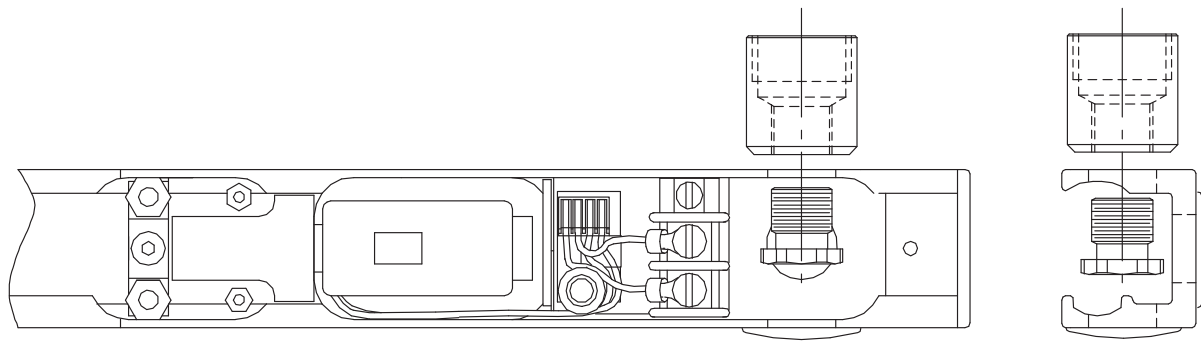
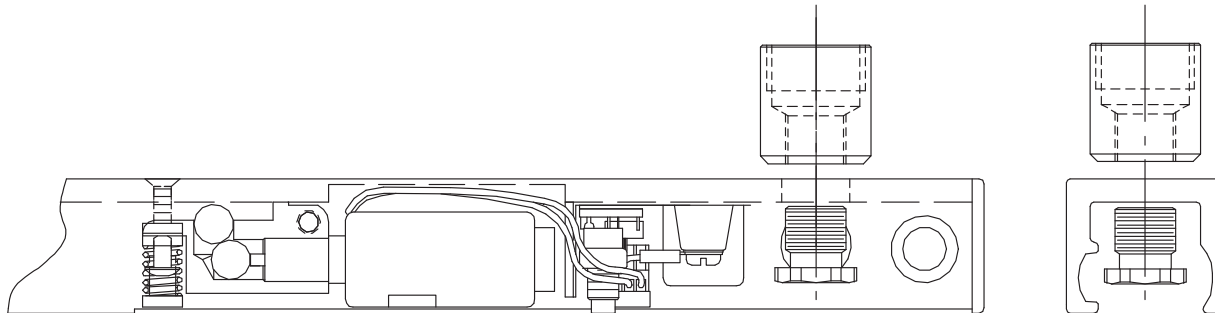

Fig. 1
Fig. 2
- 1c During step 3 on the closer installation instructions, make sure that the Conduit Connector is secured flush against the track surface. See option in Fig. 1 below that matches the mounting option selected for track surface. With the track mounted, take the Conduit Plug and slide it through the 1/2" hole in the track. (see Fig.2) Tighten the Plug into the Conduit Connector using a 5/8" wrench, until completely secure, as shown in Fig.3.